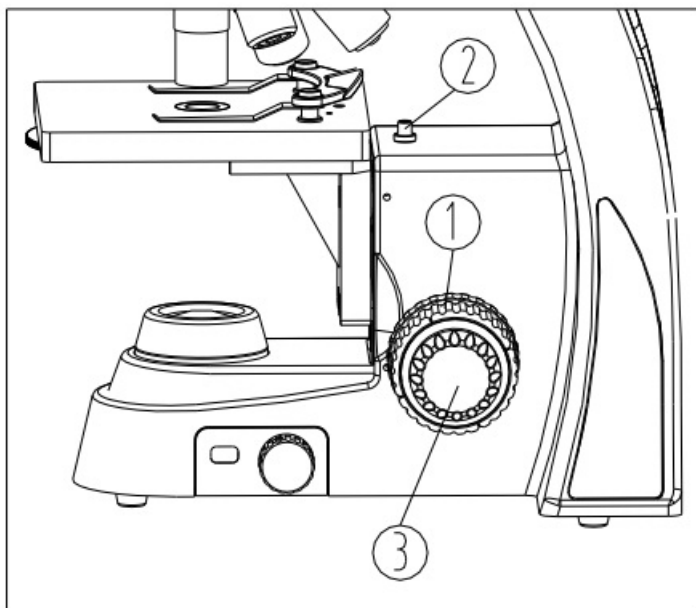

Fig. 9
2. Observe with your left eye and the left eyepiece (binocular and trinocular heads only). Rotate the coarse focusing knob ① until the specimen outline appears in the view field (see Fig. 9).